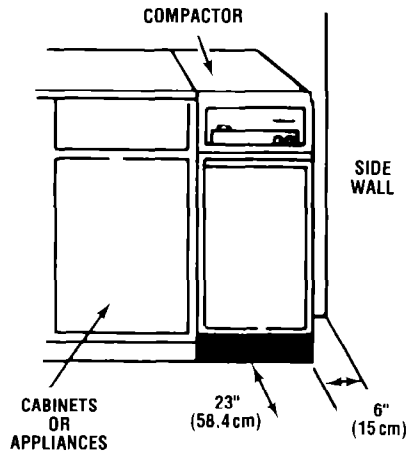

FIGURE 3
3. When installing your compactor, it is desirable to leave at least 6" (15 cm) clearance from the right edge of the drawer front for convenient bag removal. Also allow 23" (58.4 cm) in front of the appliance for drawer removal. See Figure 3.